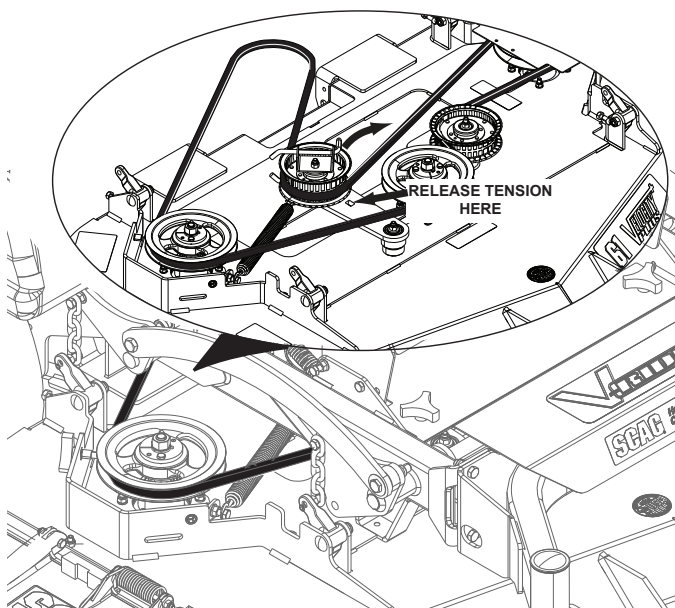

Figure 4-9. Deck Drive Belt Tension Release
5. Release tension in the idler arm. See Figure 4-9.